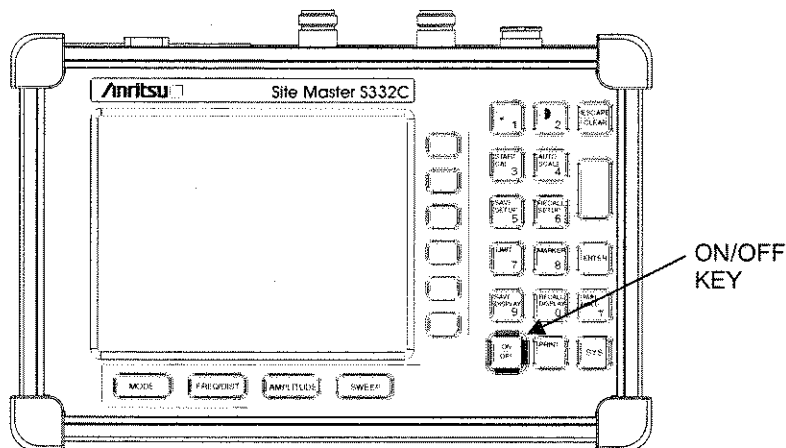

Figure 3-1. Site Master On/Off Key
**Step 1.** Press the **ON/OFF** front panel key (Figure 3-1).